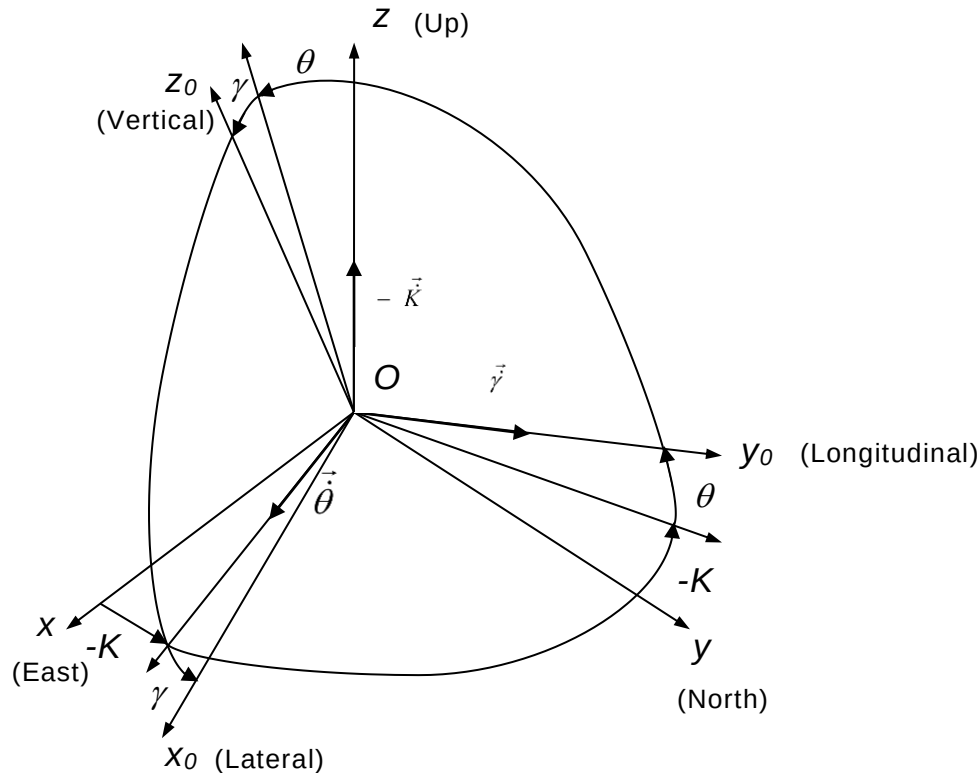

Figure D.1. Transformation of coordinate systems
Measured angles are the standard Euler angles of rotation from the Earth-level frame to the object frame: heading K is first, then pitch θ , and then roll γ (see Figure D.1).
1. Positive direction of heading is clockwise. So, heading K is shown with a minus sign in Figure D.1.
Directional cosine matrix (DCM) is the rotation matrix $\mathbf{C}$ from the object body reference frame $Ox_o y_o z_o$ to the geographical reference frame $Oxyz$. According to Figure D.1, DCM can be represented through Euler angles as